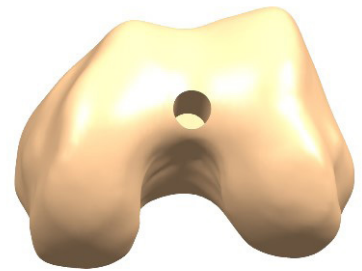

Figure 61
1. Open the femoral canal with the 9.5mm Intramedullary Drill. The drill has a 12mm step to open the entry point further (Figure 61).